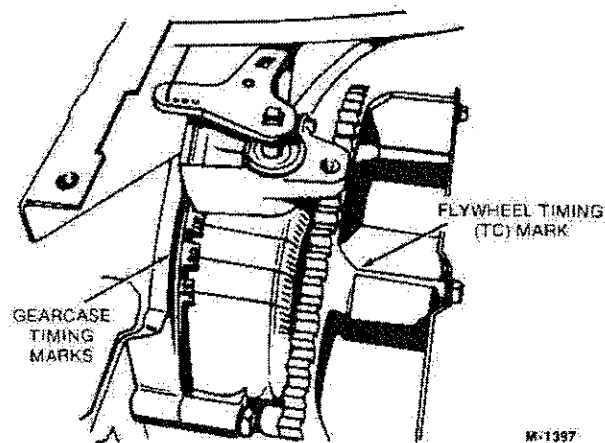

FIGURE 2. TIMING MARKS
2. Remove blower housing to expose timing marks on top of gearcase cover and flywheel (Figure 2).
3. Rotate flywheel clockwise until timing mark is aligned with the proper timing mark (Figure 2) located on top of gearcase cover. Refer to *SPECIFICATIONS* for proper number of timing degrees.